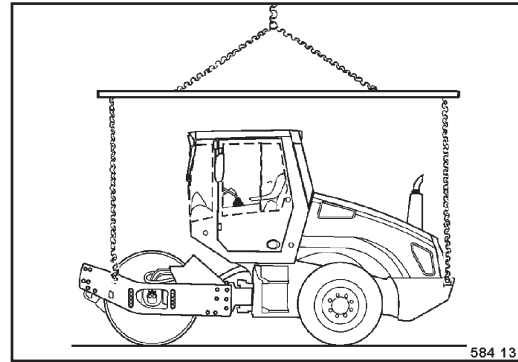

Fig. 78
- For lifting use also the four lifting eyes (Fig. 78) and appropriate lifting gear.